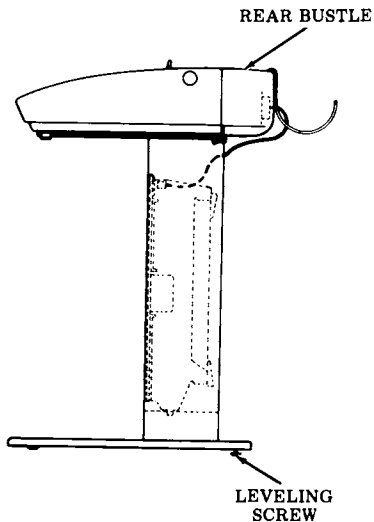

Fig. 7
- 3.16 Stabilize the teleprinter by adjusting the left or right pedestal leg leveling screw. See Fig. 7.